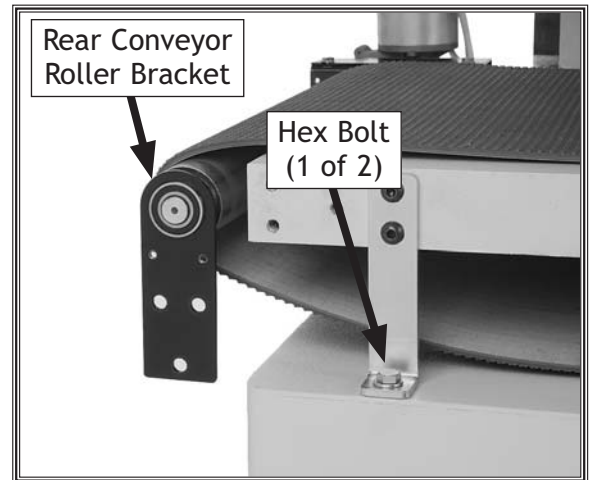

Figure 38. Rear conveyor roller bracket unattached from the conveyor support.
6. Remove the three cap screws securing the left rear conveyor roller bracket to the conveyor support, but leave the roller assembly and the bracket in place, as shown in **Figure 38**.
8. Remove the two hex bolts and flat washers on the left side of the conveyor that secure the sander assembly mounting brackets to the cabinet stand (see **Figure 38**).